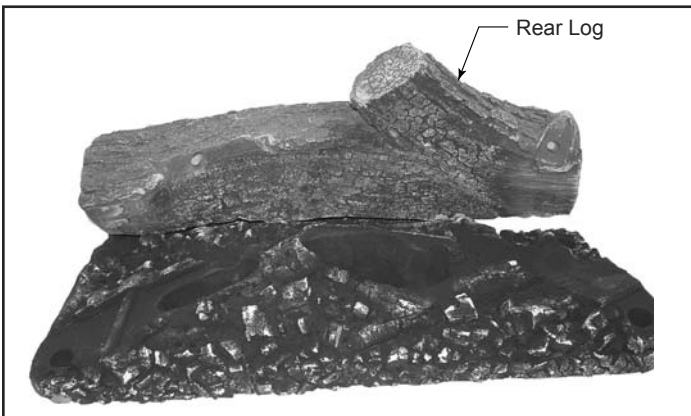

Figure 3.27 - Rear Log
2. Install the rear log by placing it on the ember bed toward the back of the firebox. (Figure 3.27) The log should touch the back wall of the firebox. When the log is in place, the two (2) notches on the bottom of the log rest on the two (2) ribs on the back side of the ember bed. (Figure 45)